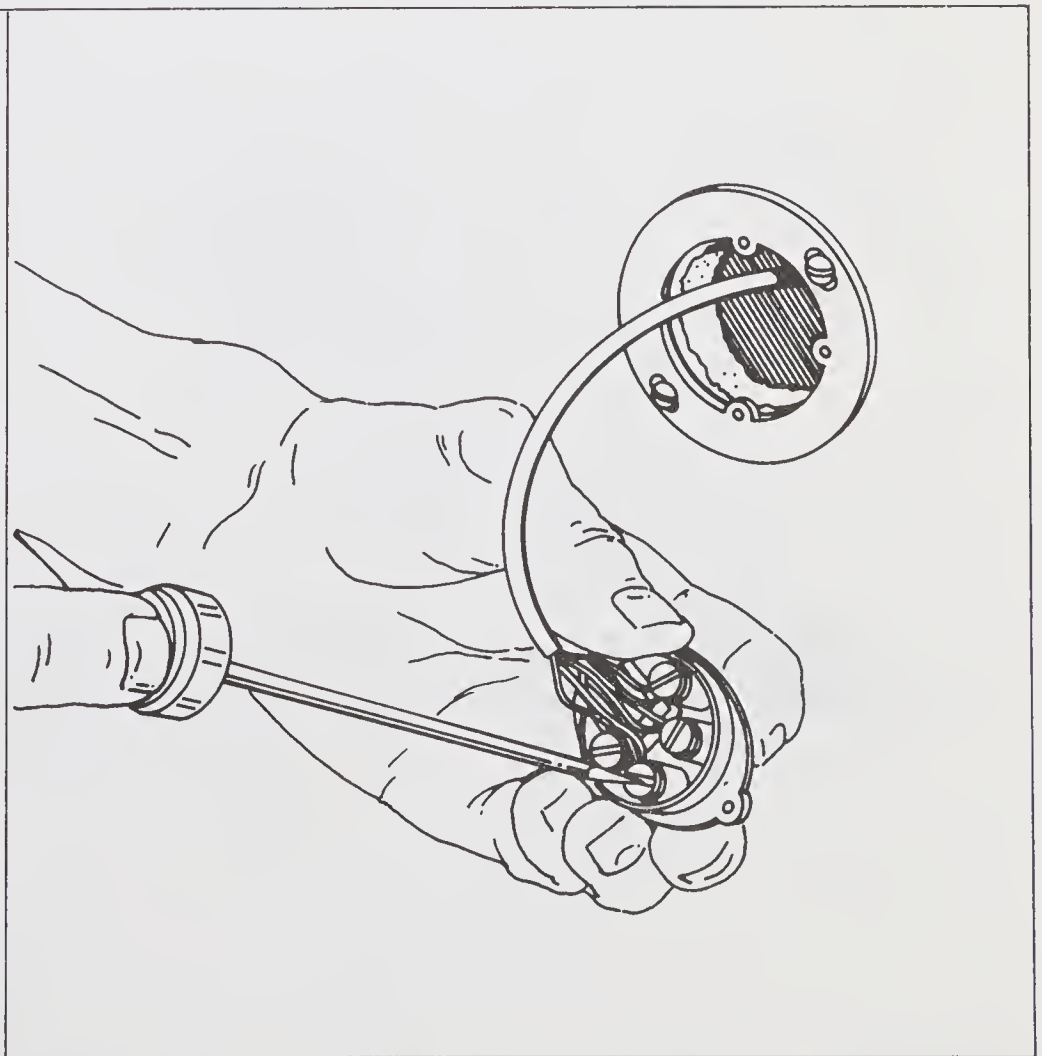

Figure 7-6.
12. Strip the insulation from the cable and the individual wires and connect the bare wires to the jack body of the round outlet for B — red to red, green to green, yellow to yellow, and black to black (See *Figure 7-6*).
9. Strip 3" of outer insulation from the cable and a 1/2" from each conductor. Connect the bare wires to the modular jack body as shown in *Figure 7-6* — red to red, green to green, yellow to yellow, and black to black.